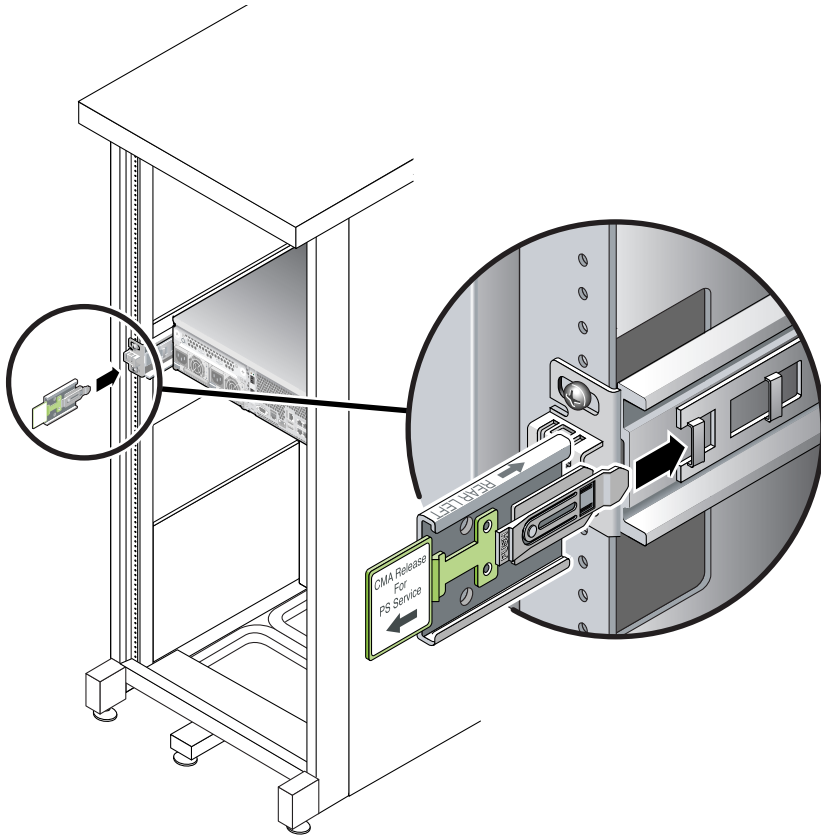

FIGURE 2-21 Inserting the CMA Rail Extension Into the Back of the Left Slide Rail
1. At the back of the rack, plug the CMA rail extension into the end of the left sliding rail assembly (FIGURE 2-21).